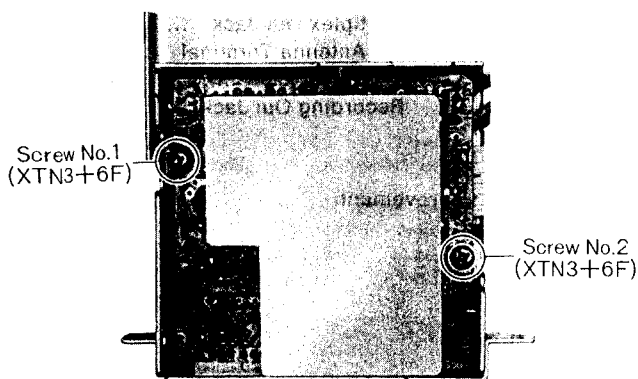

Fig. 5
3. Remove the two (2) screws (nos. 1 & 2) for the PC board, as shown in fig. 5.